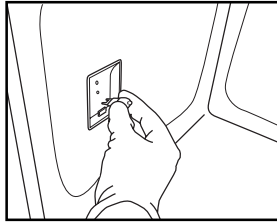

Fig. 8
4. Replace the lamp (see note for lamp type) (Fig. 8).